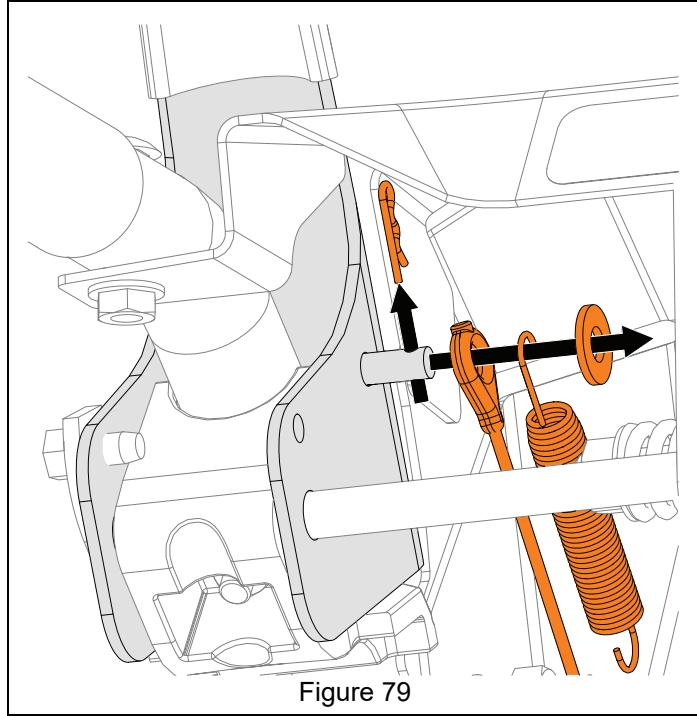

Figure 79
4. Under control panel, remove hairpin, flat washer and spring retaining upper traction clutch cable to clutch lever pin and disconnect cable. See Figure 79.
7. Reconnect upper traction clutch cable to traction clutch lever pin. Install spring on clutch lever pin and retain with one flat steel washer and hairpin. See Figure 79.